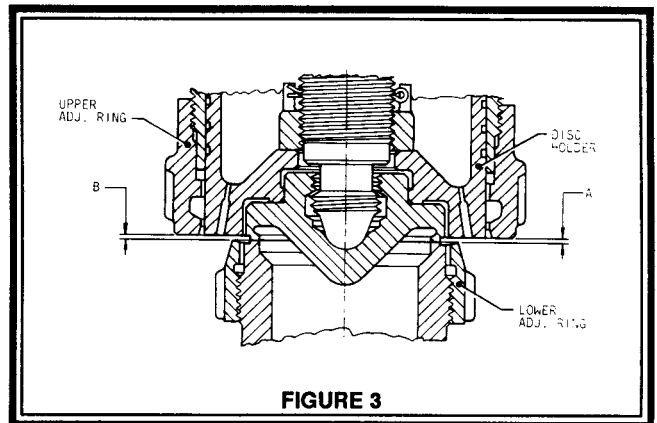

FIGURE 3
- Refer to Figure 3 and turn the lower adjusting ring
- From this point, turn the upper adjusting ring counter-clockwise the number of notches indicated by column B of Figure 3. This is also dimension B.